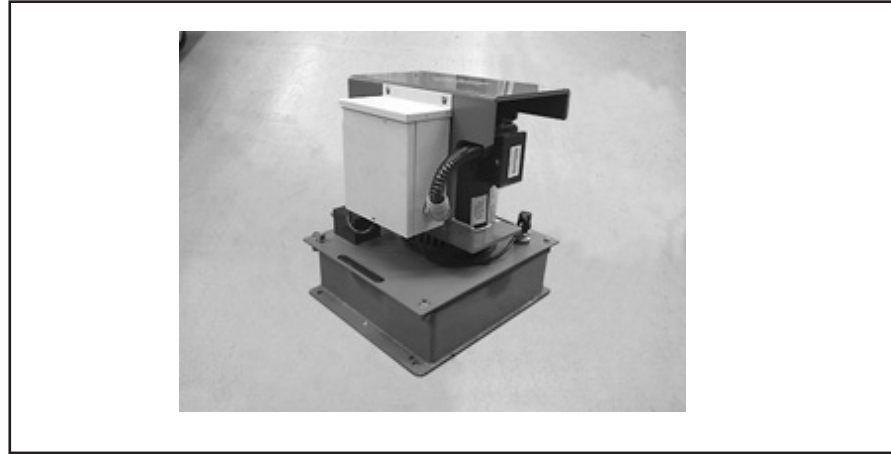

Fig. 12.1
- 12.1 Placement Considerations: The Power Unit should be placed on a flat, level surface, preferably not on wet ground. If placing outside, it is recommended the Outdoor Power Unit with Weather Guard be purchased (see Fig 12.1), but should not be subject to driving rain. If placing indoors and at a level below the pool deck, such as a basement, a floor drain is mandatory to accommodate the unlikely event of a hole developing in the hydraulic hose creating a siphon. Whether placed indoors or out, this is an air-cooled unit and must have ample ventilation. Therefore, a minimum of 12" air space must be provided on all sides of the Power Unit motor. In addition, while frequent access is not required, it is imperative the Power Unit is accessible.